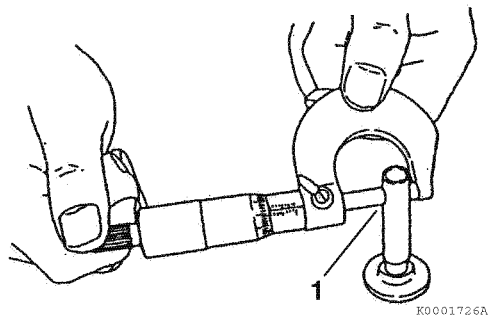

Figure 6-63
2. Measure the outside diameter of the tappet stem (1, **Figure 6-63**). See *Tappet* on page 6-13 for the service limit.